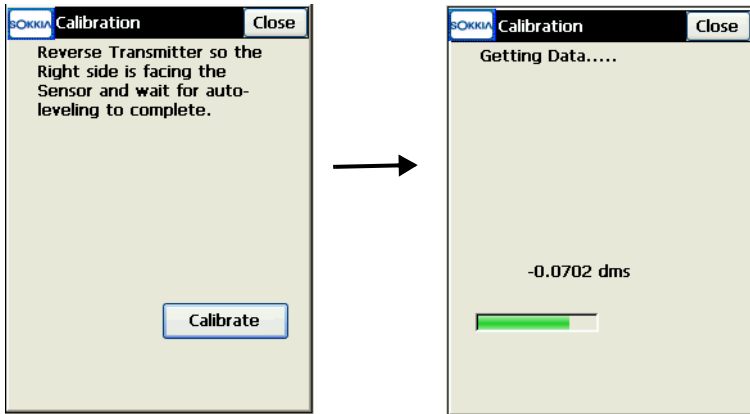

Figure A-19. Turn Transmitter to Right and Collect Data
10. Turn the transmitter 180° so the right side faces the transmitter. Tap **Calibrate** (Figure A-19 on page A-12).